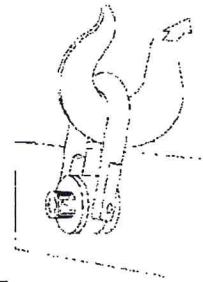

Figure 7
- Apply partial load and check proper rotation and alignment. There should be no interference between load (work piece) and hoist ring bail (Fig.7)